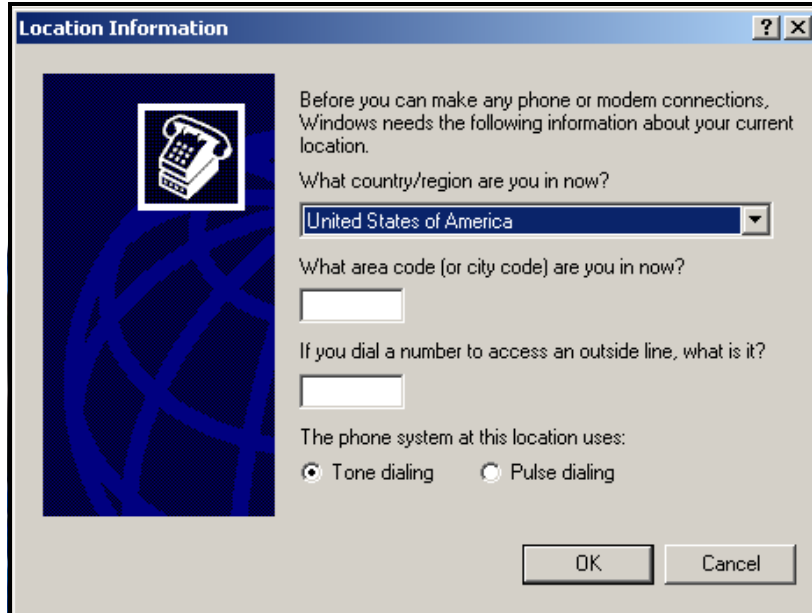

Figure 12: Location Information Window
**Note:** *If this is the first time that Hyperterminal has been launched, a Location Information window will pop up (see Figure 12 below). Enter any area code, and then click OK.*